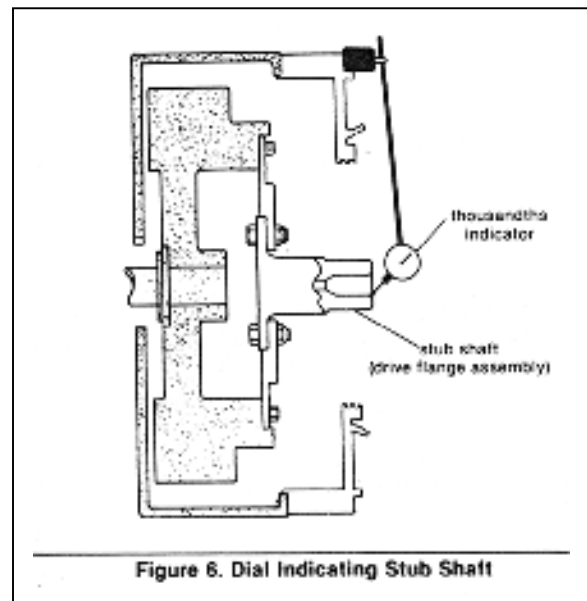

Figure 6. Dial Indicating Stub Shaft
11. Dial indicate stub shaft on chamfer as shown in figure 6. Record reading. Total indicator reading must not exceed .007 inch.